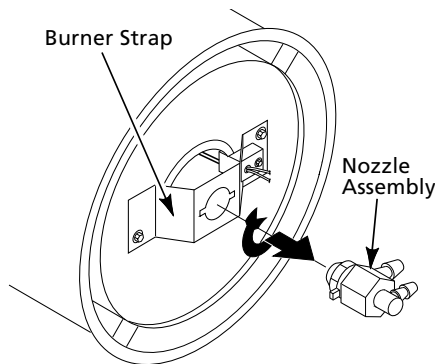

Figure 20 - Removing Nozzle Assembly, All Models
4. Turn nozzle assembly 1/4 turn to left and pull toward motor to remove (See Figure 20).